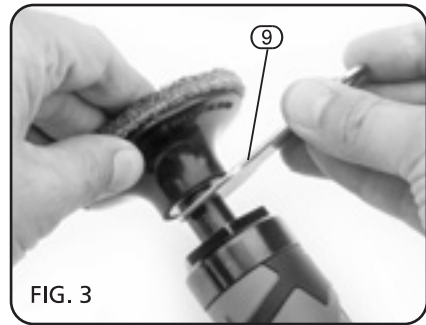

FIG. 3
9.2 ATTACHING BACKING PAD - FIG. 3